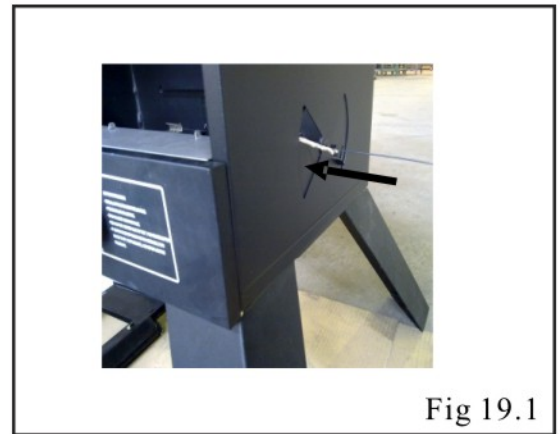

Fig 19.1
3. Use the match holder to secure and direct the match into the hole to burner, when igniter not working. Fig 19.1